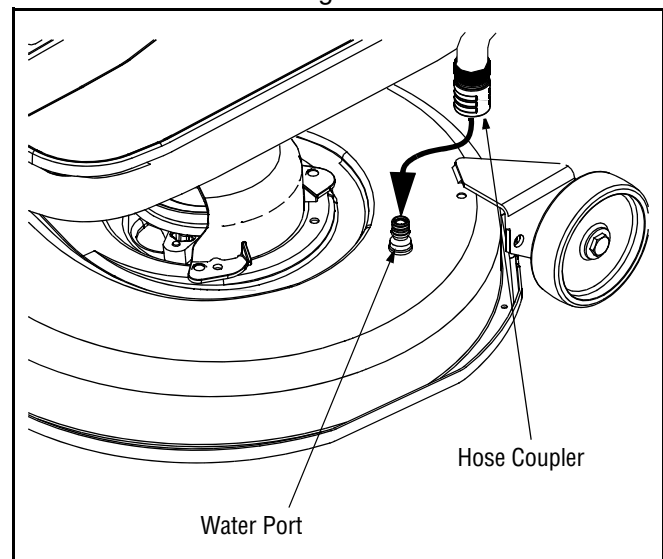

Figure 20
4. Attach the hose coupler to the water port on your deck’s surface. See Figure 20.